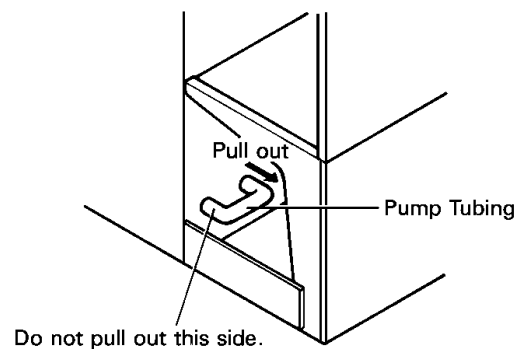

Fig. 11
8) Turn off the power supply. Remove one end of the Pump Tubing, and drain the Water Tank. See Fig. 11.
- 5) Remove one end of the Pump Tubing. Drain the Water Tank. Replace the Pump Tubing in its correct position. See Fig. 11.